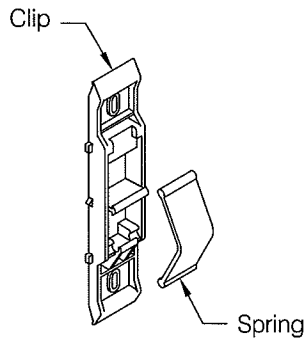
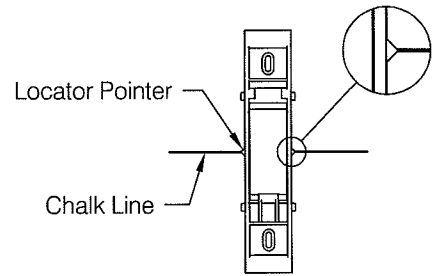
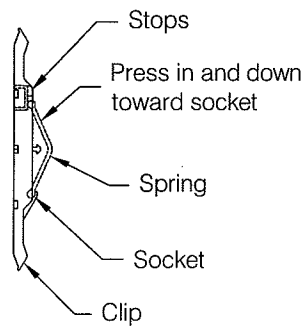

fig 2
fig 3
fig 8
**Step 2:** Each Quik Clip retainer consists of a base or "Clip" and an impact cushion or "Spring" shipped separately, see **fig 2**. Secure clips to wall by aligning the molded location pointers in the clip with the chalk line, see **fig 3**. While the clip may be installed either end up it is recommended that the spring socket be oriented down, see **fig 8**.
*Note:* Install spring by snapping ball of spring into socket provided in clip. The easiest method is to locate the ball opposite the socket against the "stops" provided in the clip and snap the ball into the socket by pressing the crown of the spring both down and toward the socket, see **fig 8**.